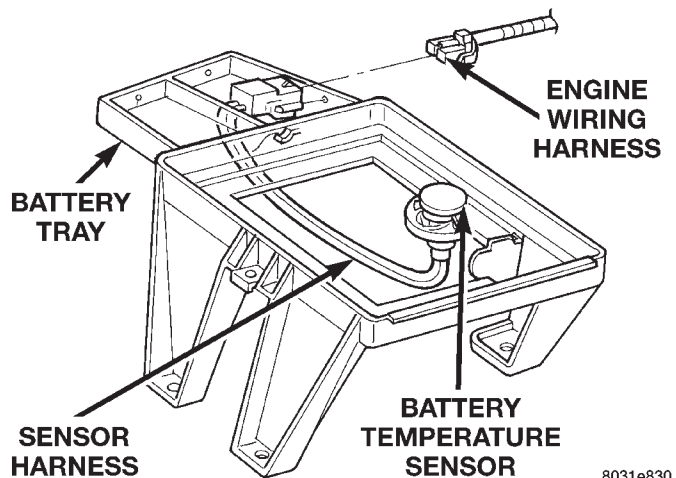

Fig. 3 Battery Temperature Sensor
- (1) The sensor is located under the battery and is attached to the battery tray (Fig. 3). A two-wire pigtail harness is attached directly to the sensor. The opposite end of this harness connects the sensor to the engine wiring harness.